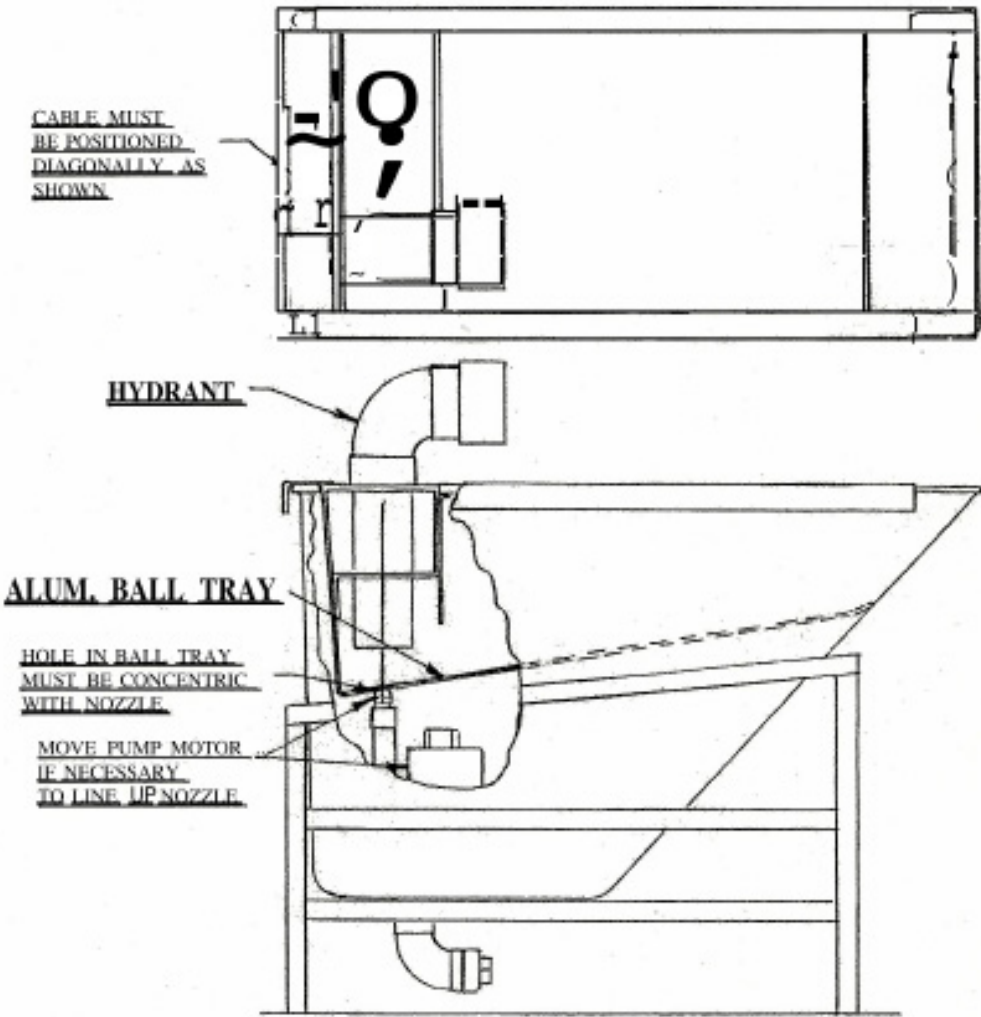

FIGURE 2
- Step 6. Install back half of ball tray, lining up nozzle on pump with small hole in shelf. (Fig 2) Be careful not to pinch power cord. It should be diagonal across edge of tub. (Fig 2)